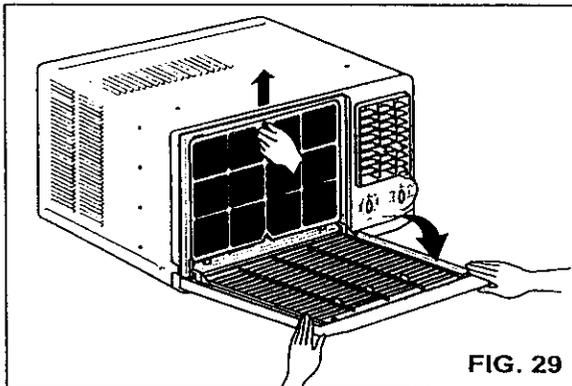

FIG. 29
- Pull the inlet grille forward, grasping both tabs, and pull out the air filter. (FIG. 29)